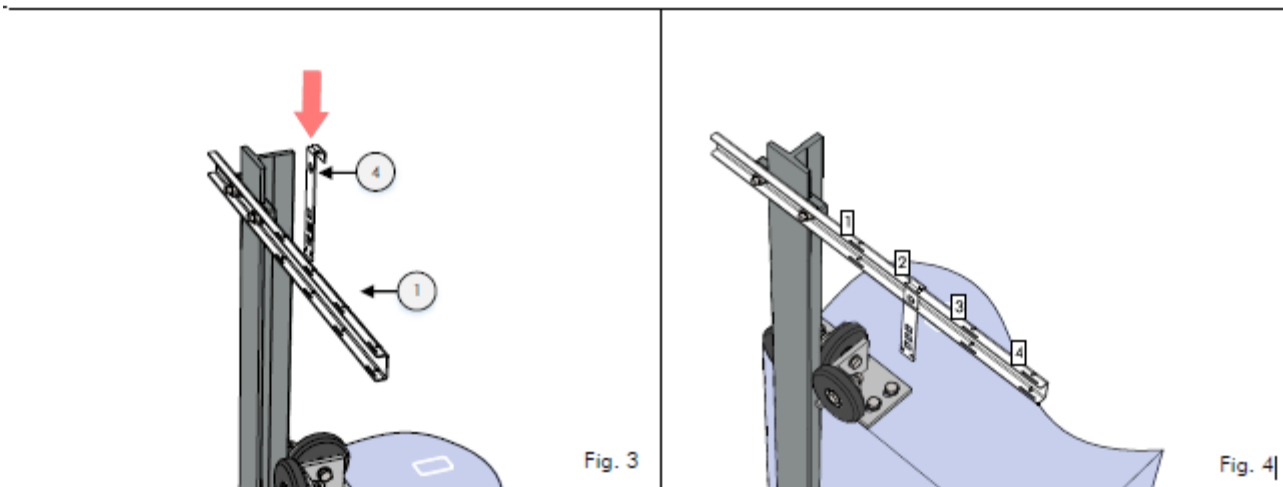

Fig. 3 & 4:
The crossbeam for the safety presence detector (2) should be pre-mounted for the installation later. Mount the cable screw connections (1 piece) to the presence detector. Align the presence detector (8) with the edge of the crossbeam (2). Then fasten the screws with 3 Nm. The presence detector should be positioned on the same slot, as you used during the assembly of the tape fixation (4) in the upper crossbeam (1) (see Fig. 3 & 4).